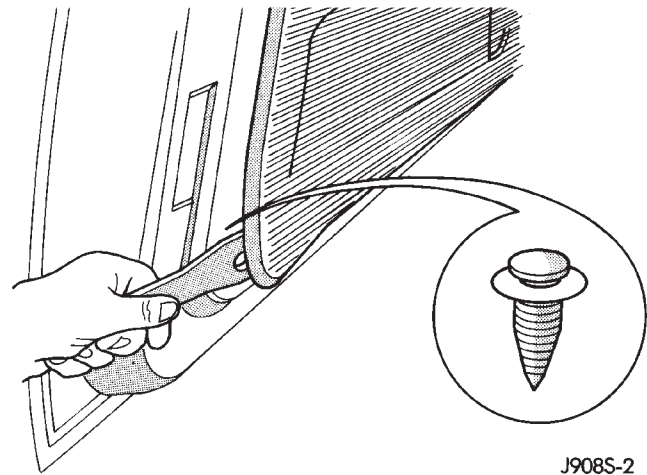

Fig. 4 Trim Panel Removal
- (3) Remove screw and door handle cover.
- (4) Remove screw from under armrest.
- (5) Remove screw from bottom of hand hold in armrest.
- (6) Remove the trim panel with a wide flat blade tool (Fig. 4).